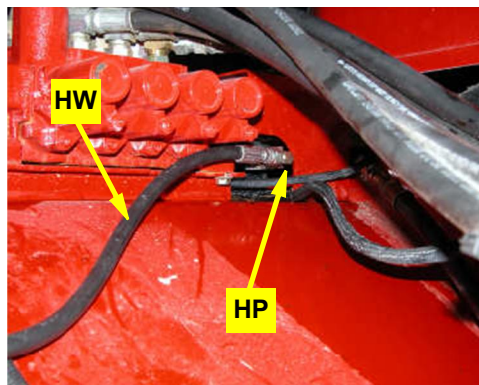

Figure 3b: Provided load sense hose connected to load sense shuttle
- b. Install the provided load sense hose **HW** to the open adapter **HP** at the load sense shuttle (Figure 3b).